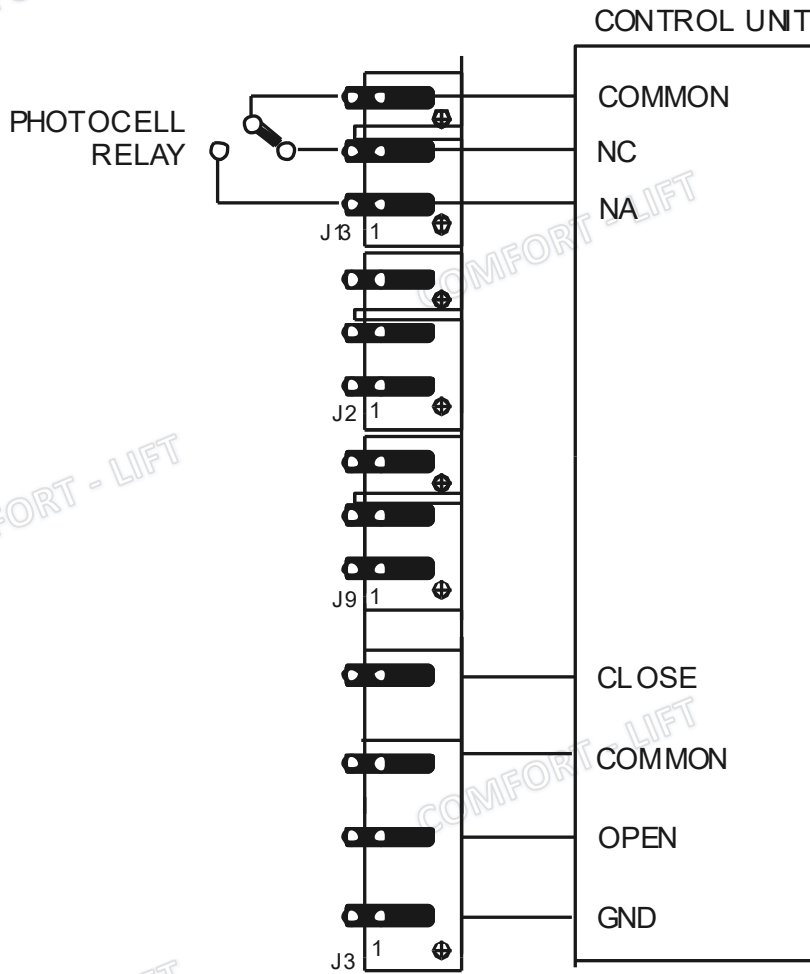

figure 4.4
-In either of these two cases the inverter will commute the photocell contact of the J13 connector (figure 4.4) which we will connect to the control panel in order for it recognize the reopening order and avoid possible time conflicts between the control panel and the inverter.